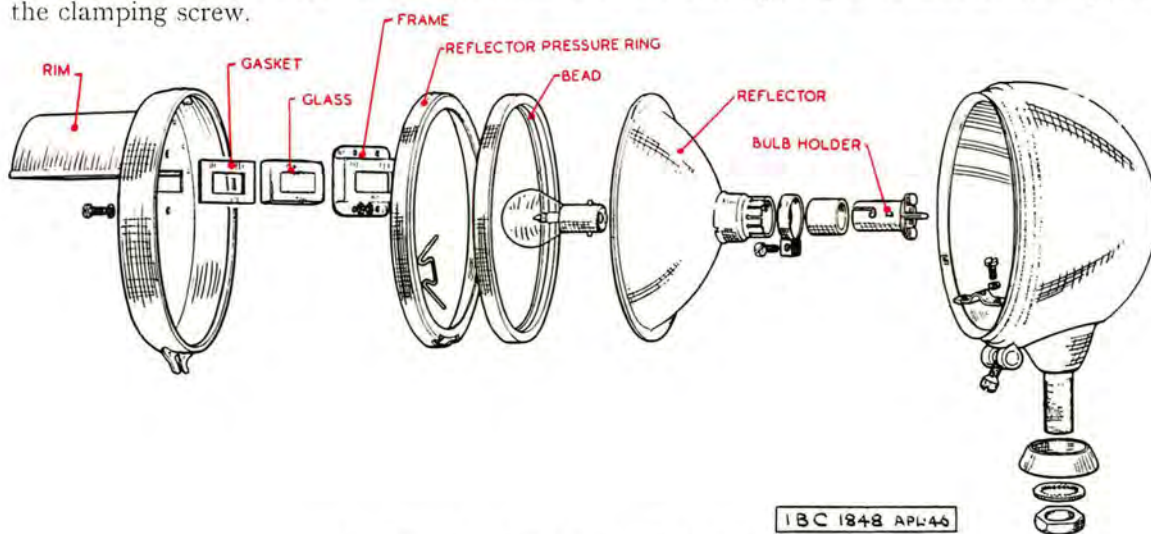

Fig. 121. Headlamp, Lucas, Type L/WD/HIR
**HEADLAMP** (Type, Butler, B/WD/HIR alternative Lucas, L/WD/HIR (fig. 121)